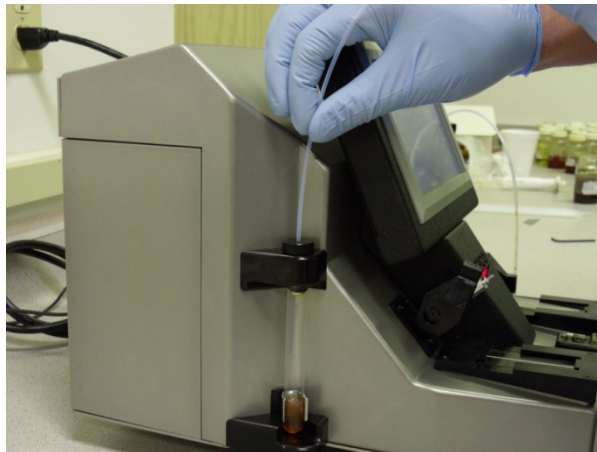

Figure 8.2 – Install Sample Tube into Sample Vial
12. Place a sample tube through the sample head assembly until it touches the bottom of the sample vial (refer to Figure 8.2).